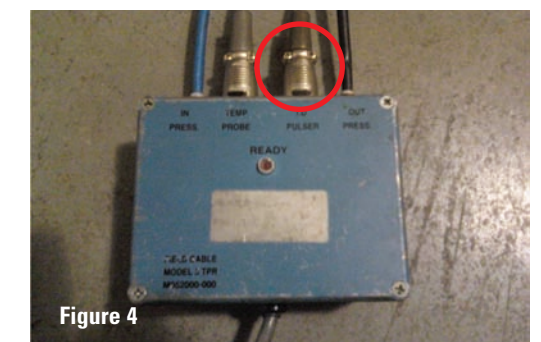

Figure 4
2. Connect the Rotary MiniMax Prove Cable to the ID Pulsar location on the blue junction box (Figure 4)